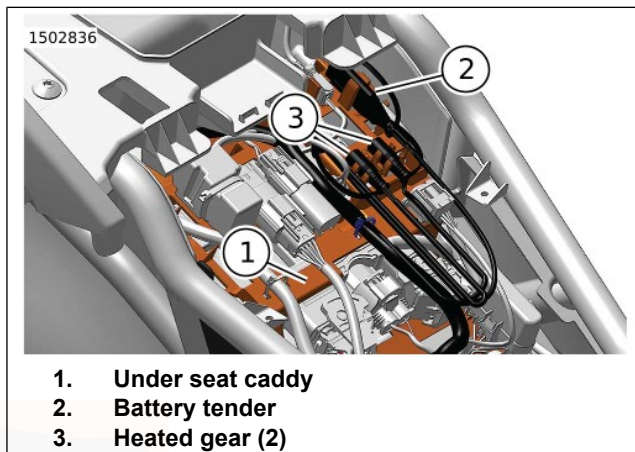

Figure 66. Under Seat
Figure 66 Maintaining the battery between rides and while stored can maintain battery charge and extend the life of the battery. Connect the battery tender connector (2) to a battery tender during storage or to a battery charger if the battery voltage drops below specification. See SERVICE PROCEDURES > BATTERY MAINTENANCE (Page 157).